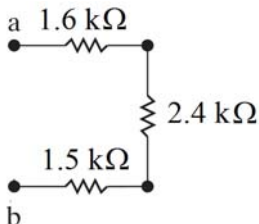

Figure 1: Series Circuit
1. What is the equivalent resistance across terminals a and b for the circuits in Figures 1, 2 and 3?